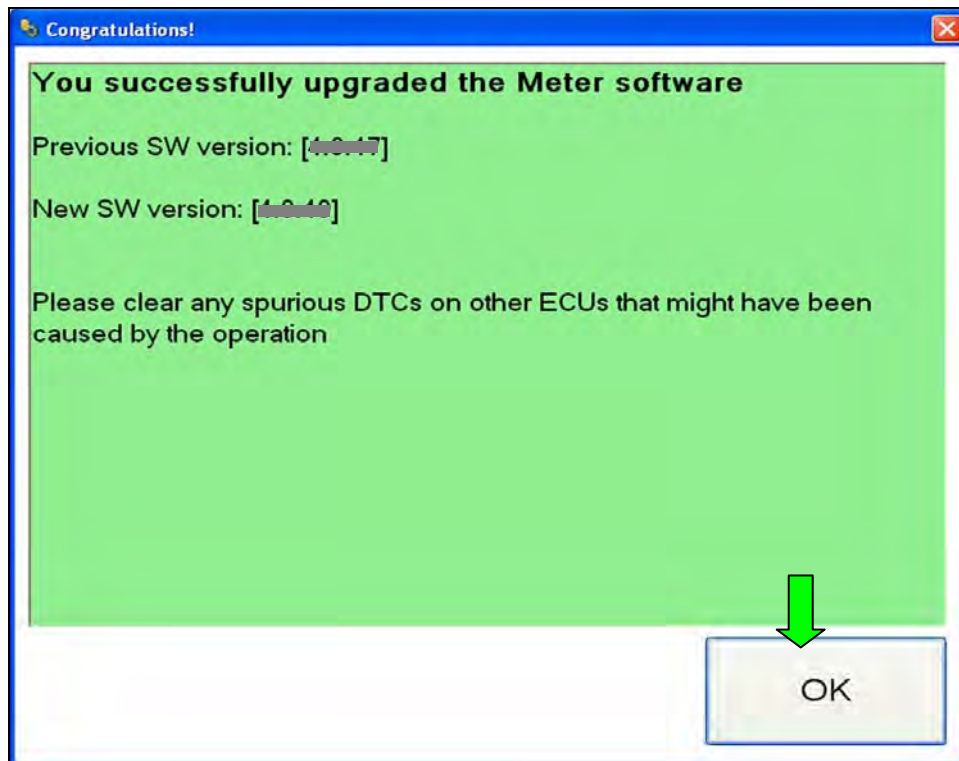

Figure 3
13. The screen in Figure 3 displays when reprogramming is complete – Select **OK**.